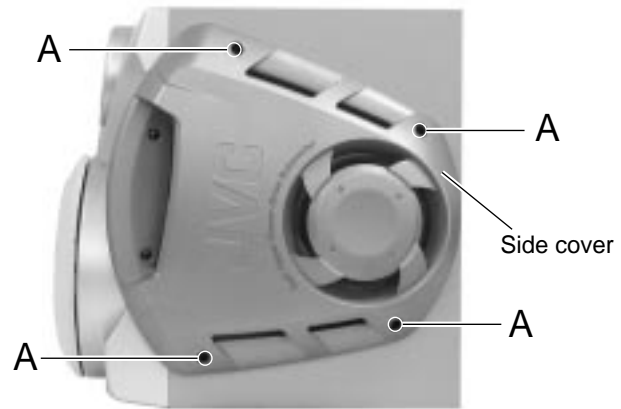

Fig.1
■ Removing the playback, recording and eraser heads (See Fig.1~3)
1. While shifting the trigger arms seen on the right side of the head mount in the arrow direction, turn the flywheel R in counterclockwise direction until the head mount has gone out with a click (See Fig. 1).
■ Removing the side cover (See Fig.1)